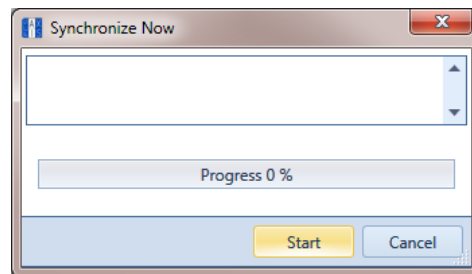

Figure 16-9. Synchronize Now
- 1 Click **Tools** > **Synchronize Now** to open the *Synchronize Now* dialog box. Then click **Start** (Figure 16-9).